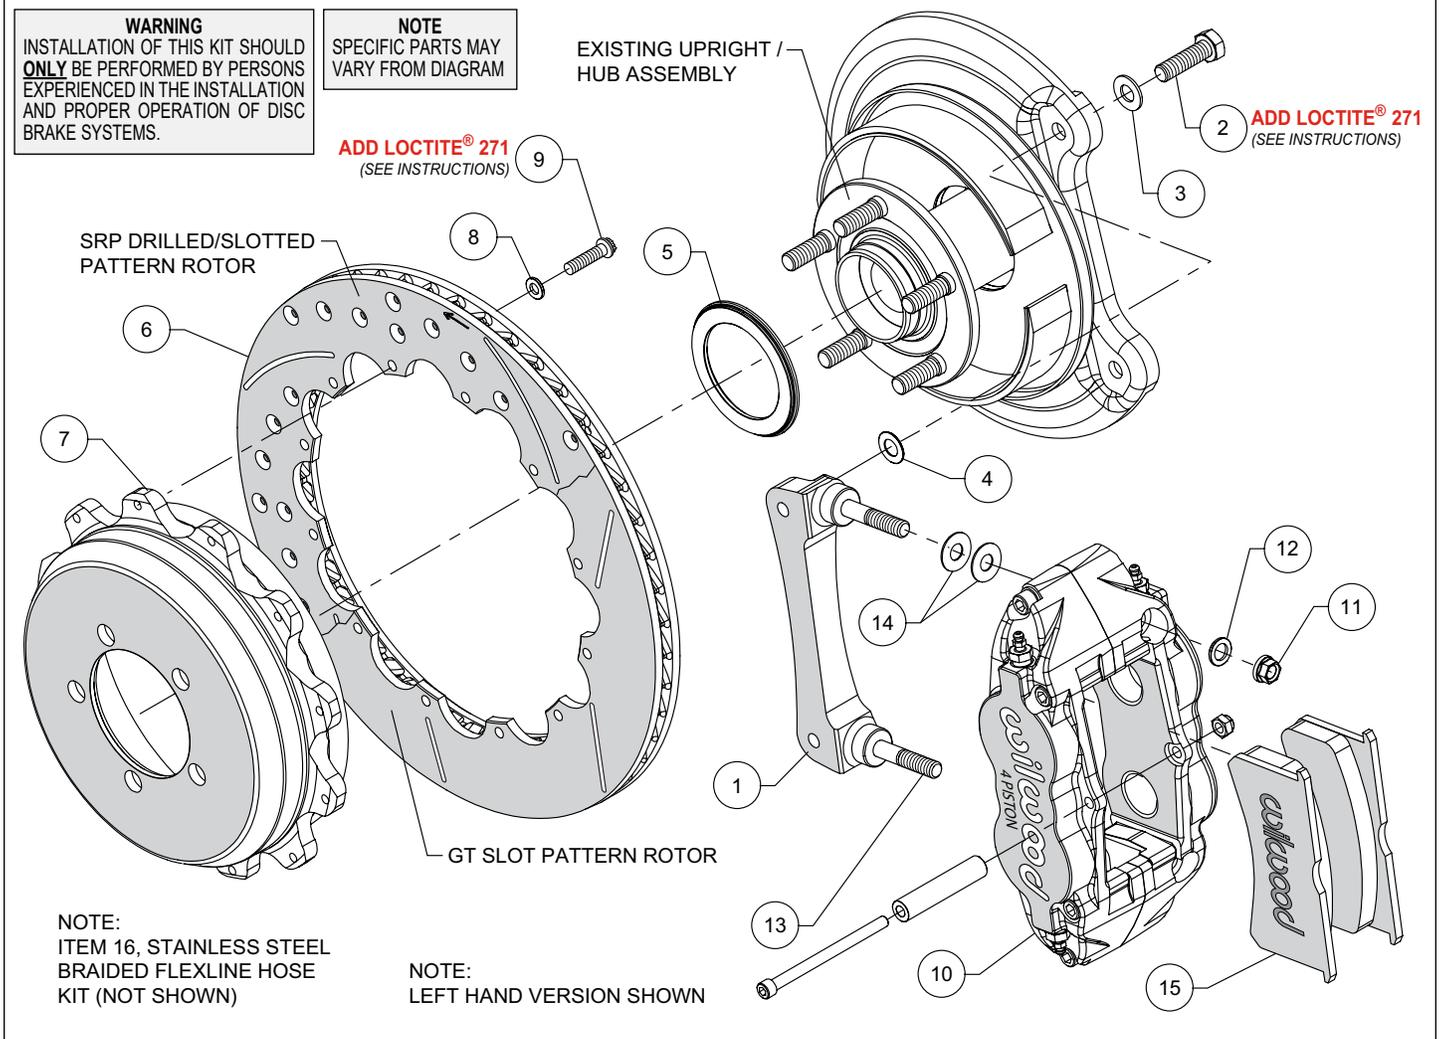
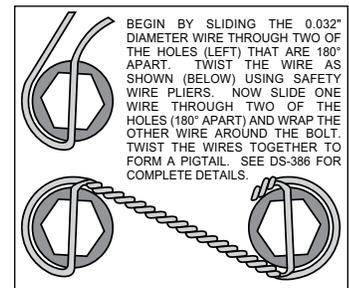

Figure 1. Typical Installation Configuration
Figure 3. Safety Wire Diagram
NOTE: Numbers in parenthesis refer to the parts list and Figure 1 on the preceding pages.
- The caliper mount bracket (1) should initially be installed with clean, dry threads on the mounting bolts. Orient the bracket as shown in Figure 1 and Photo 2, and install using washers (3) and bolts (2). Initially place one shim (4) on each bolt between the bracket and upright, Figure 1. Temporarily tighten the mounting bolts. **NOTE: The bracket must fit squarely against the mount bosses on the upright.** Inspect for interference from casting irregularities, machining ridges, burrs, etc. Later, after the caliper alignment has been checked, the mount bolts will be secured using red *Loctite*® 271.
- Orient the rotor (6) and the hat (7) as shown in Figure 1 and Photo 3. Attach rotor to hat using bolts (9) and washers (8). Apply red *Loctite*® 271 to the bolt threads and torque to 140 **in-lb** using a criss-cross pattern. For an added measure of security, the bolts may be safety wired using standard 0.032 inch diameter stainless steel safety wire as shown in Figure 3. Please refer to Wilwood's data sheet DS-386 (available at www.wilwood.com/Pdf/DataSheets/ds386.pdf) for complete safety wire installation instructions.
- Slide the rotor registration adapter (5) onto the axle register on the axle hub with the smaller O.D. facing outward, Photo 4. Slide the hat/rotor assembly onto the axle hub. **NOTE: The hat must fit flush against the axle hub flange or excessive rotor run out may result.** Install three lug nuts (finger tight) to keep the hat/rotor assembly in place while continuing with the installation.
- Initially place two .035" thick shims (14) on each stud (13) as shown in Figure 1 and Photo 5. Mount the caliper (10) onto the bracket (1) using lock nuts (11) and washers (12), Figure 1. Temporarily tighten the lock nuts and view the rotor through the top opening of the caliper. The rotor should be centered in the caliper, Photo 6. If not, adjust by adding or subtracting shims (4) between the bracket and the upright. Once the caliper alignment is correct, remove the bracket mounting bolts one at a time, apply red *Loctite*® 271 to the threads, and torque to 40 ft-lb.
- Remove the caliper center bridge pad retainer bolt, nut, and tube from the caliper. Insert the brake pads (15) into the caliper, with the friction material facing the rotor, as shown in Photo 7. Check that the top of the brake pad is flush with the outside diameter of the rotor, Photo 8. If not, adjust by adding or subtracting shims (14) between the caliper and the bracket. After the caliper pad height is set, reinstall the center bridge pad retainer tube, bolt, and lock nut. The lock nut should be snug without play in the bolt or tube. Be cautious not to over tighten. Torque the caliper lock nuts (11) to 30 ft-lb.